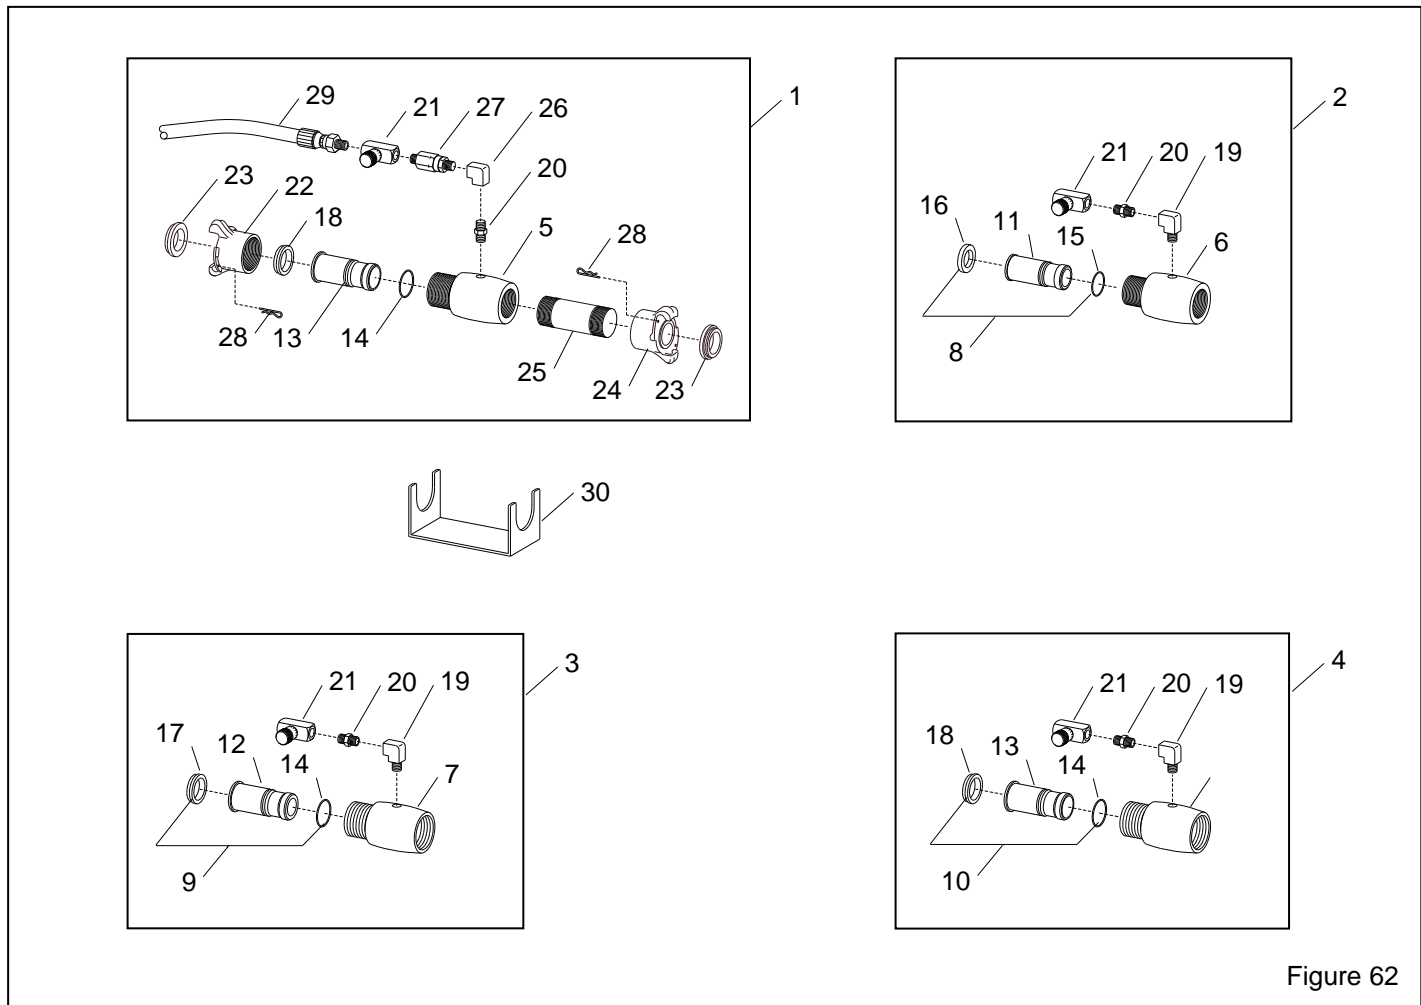

Figure 62
9.12 Injector Assemblies – Figure 62